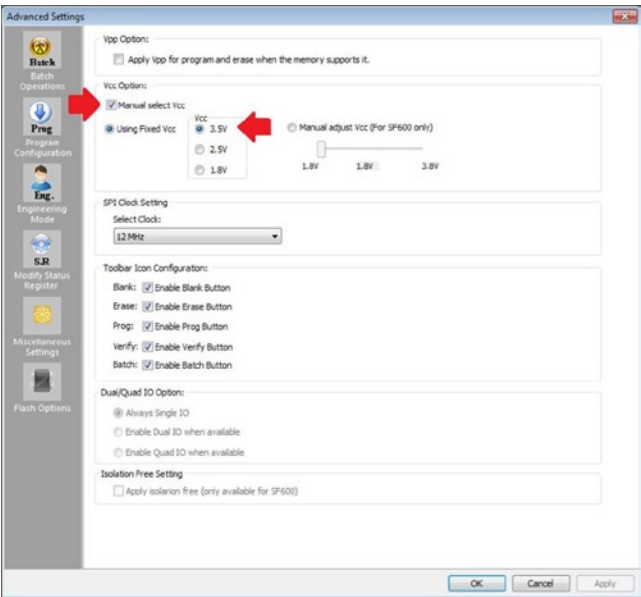

Figure 2-17. Configuring the DediProg SF100 to Vcc 3.5V
3. Click **Configuration** and change the **Vcc** option to **Manual**. Select **Vcc** and **3.5V**; this will save a lot of problems due to flash error. Click the OK button, as shown in Figure 2-17.